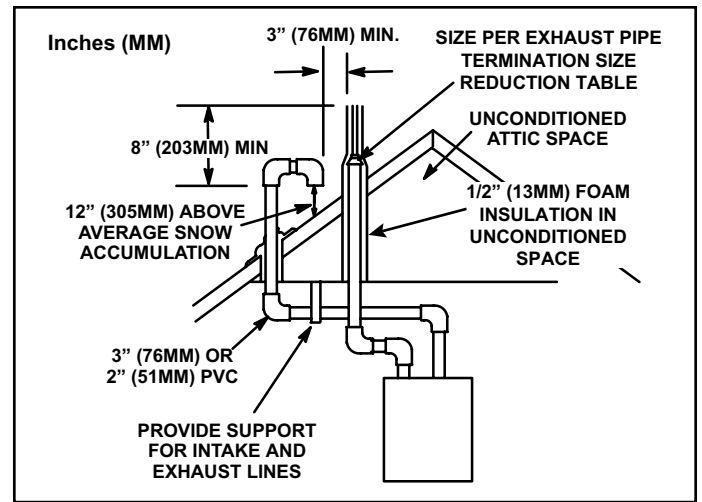

Figure 29. Direct Vent Roof Termination Kit 15F75 or 44J41
Intake and exhaust pipes may be routed either horizontally through an outside wall or vertically through the roof. In attic or closet installations, vertical termination through the roof is preferred. Figure 29 through Figure 37 show typical terminations.
3. On roof terminations, the intake piping should terminate straight down using two 90° elbows (see Figure 29).